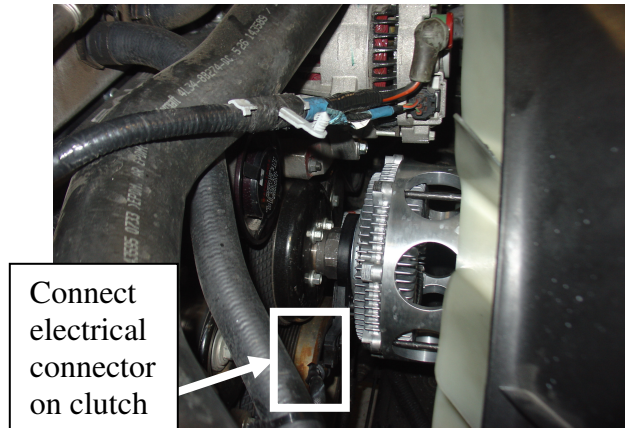

Figure 23
28. Thread the fan clutch onto the water pump shaft (Figure 23)
29. Reconnect the fan control harness electrical connector, and secure the harness in the clip with the stock rubber bushing. (Figure 23)